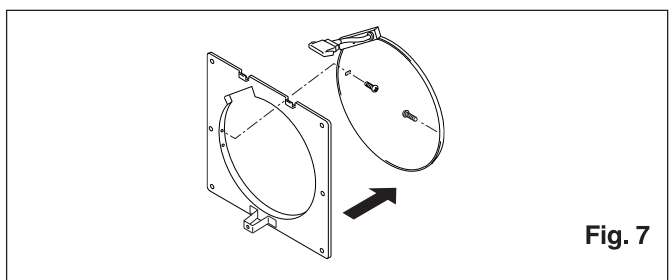

Fig. 7
9. Press the mounting plate tightly against the wall and secure to the outside of the wall sleeve with the supplied screws(screw II). (Fig. 7)